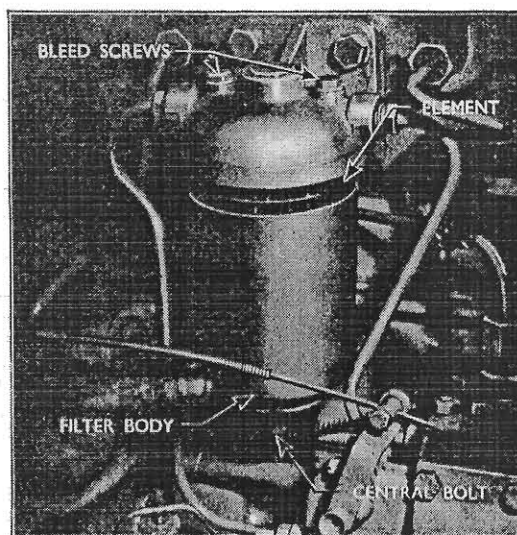

Fig. 3.
1. Unscrew the central bolt from the filter, remove the filter body and discard the filter element (see Fig. 3). Using a brush and clean fuel oil, thoroughly clean the interior of the filter body. *On no account should rag be used for this operation.*
2. Remove the bleed screw (see Fig. 3) on the outlet side of the fuel filter head (the one nearest the fuel injection pump) and operate the priming lever on the fuel lift pump. Continue pumping until a stream of fuel, free from air bubbles, issues from the filter. Replace and tighten the bleed screw.